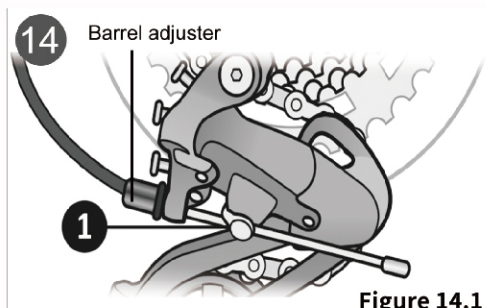

Figure 14.1
- ① Shift the rear shifter to largest number indicated, disconnect the rear derailleur cable from the cable anchor bolt and place the chain on the smallest sprocket. Figure 14.1